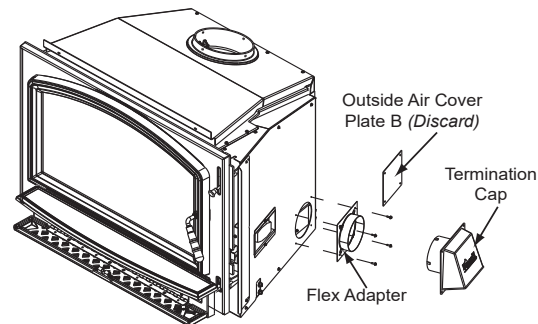

Figure 18.2
5. Remove the outside air cover plate B on outer can and discard (**Figure 18.2**).
14. Remove the outside air cover plate B on outer can and discard (Figure 18.2).